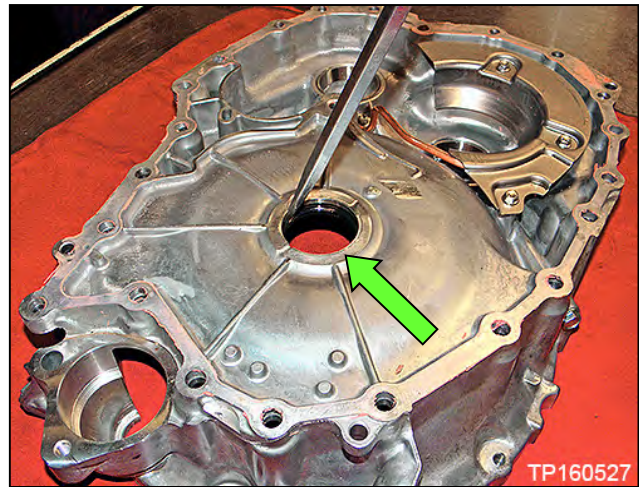

Figure 37
- b. Torque converter seal (Figure 37).